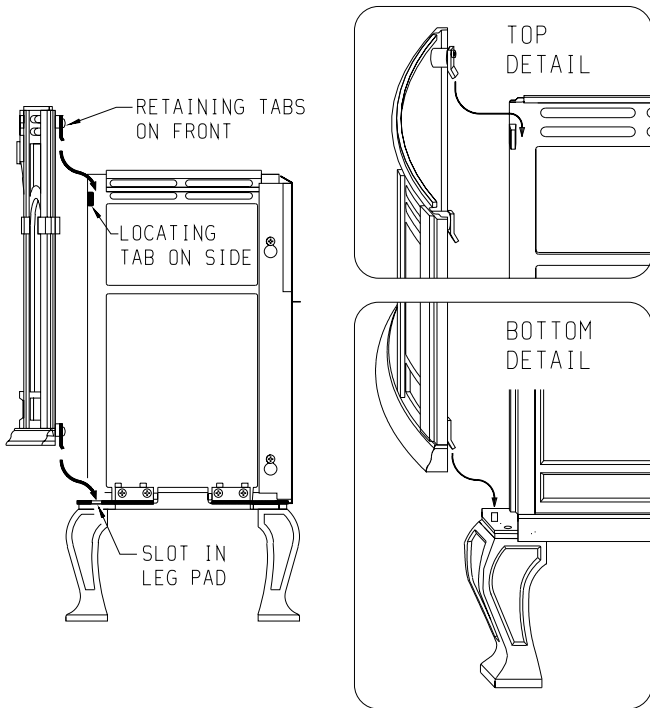

Figure 8
- Assembly of front by attaching retaining tabs and placing front on unit (Figure 8).
10. Attach the (4) 1-1/4" x 1/2" retaining tabs to the casing front with (4) 3/8" bolts. The retaining tabs should be positioned downward, from the casing front, top to the casing front, bottom.
11. Refer to Figure 8, attach casing front to outer casing by using the (4) retaining tabs on the casing front. The (2) top, retaining tabs on the casing front will be placed behind the (2) top, locator tabs on the front of the casing sides. The (2) bottom, retaining tabs will be inserted into the (2) 9/16" slots on the front, leg pads. Place the top, retaining tabs behind the top, locator tabs as you pivot inward the bottom of the casing front in order to insert the bottom, retaining tabs into the slots.
12. The following procedure will provide a snug fit between the casing front and the casing sides. Grasp the right, front leg, push inward on the leg in order to provide a snug fit between the casing front and the casing side. Continue to hold the right, front leg as you completely tighten the (2) 3/8" bolts that attach the leg pad to the right, casing side. Repeat procedure for left, front leg to achieve a snug fit between the casing front and the casing side.